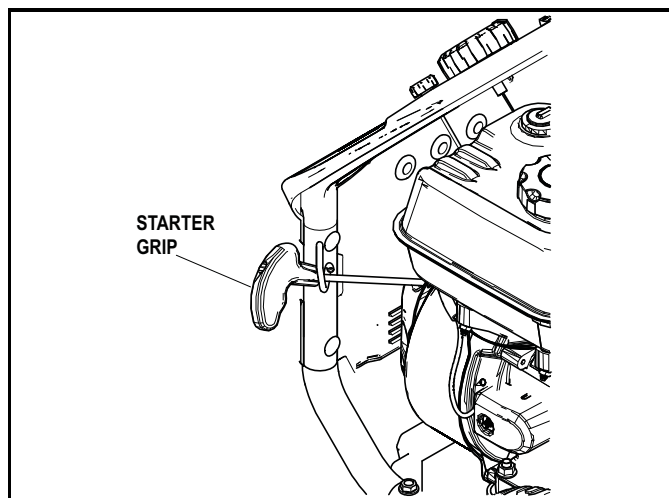

Figure 5-5. Starting the Engine
5. When starting the engine, grasp starter grip handle (Figure 5-5) and pull slowly until you feel some resistance. Then pull rapidly to start engine.